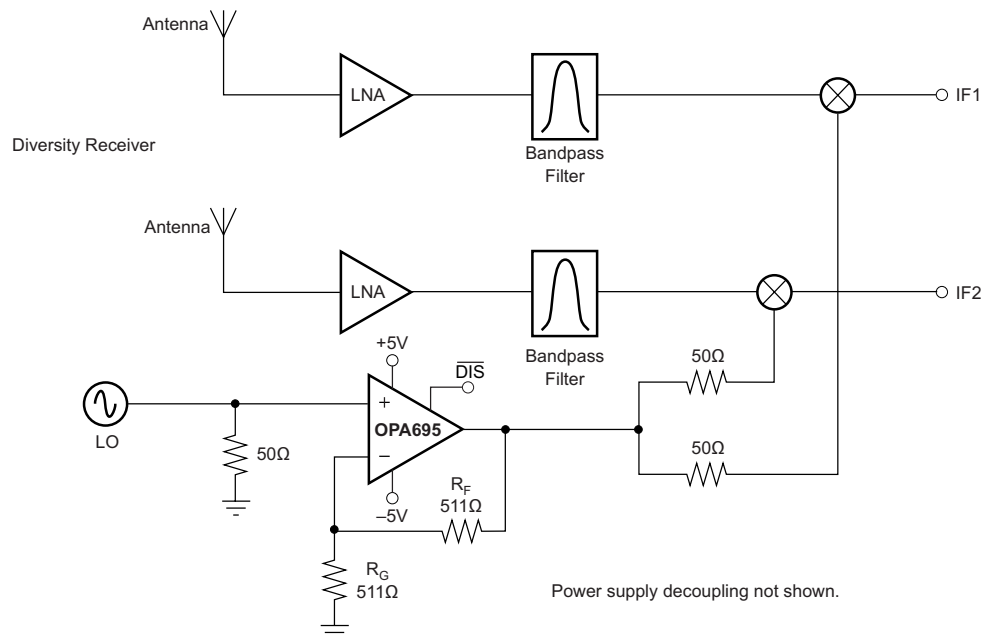

Figure 54. Dual Output LO Buffer
The OPA695 can also be used to buffer the Local Oscillator (LO) from the mixer. Operating at a voltage gain of $+2$, the OPA695 provides almost perfect load isolation for the LO, with a net gain of 0 dB to the mixer. Applications through 1.4-GHz LOs may be considered, but best operation would be for LOs < 1.0 GHz at a gain of $+2$. Gain can also be provided by the OPA695 to drive higher power levels into the mixer. One option for the OPA695 as an LO buffer is shown in Figure 54. Because the OPA695 can drive multiple output loads, two identical LO signals may be delivered to the mixers in a diversity receiver by tapping the output off through two series 50-Ω output resistors. This circuit is set up for a voltage gain of $+2$ V/V to the output pin for a gain of $+1$ V/V (0 dB) to the mixers, but could easily be adjusted to deliver higher gains as well.